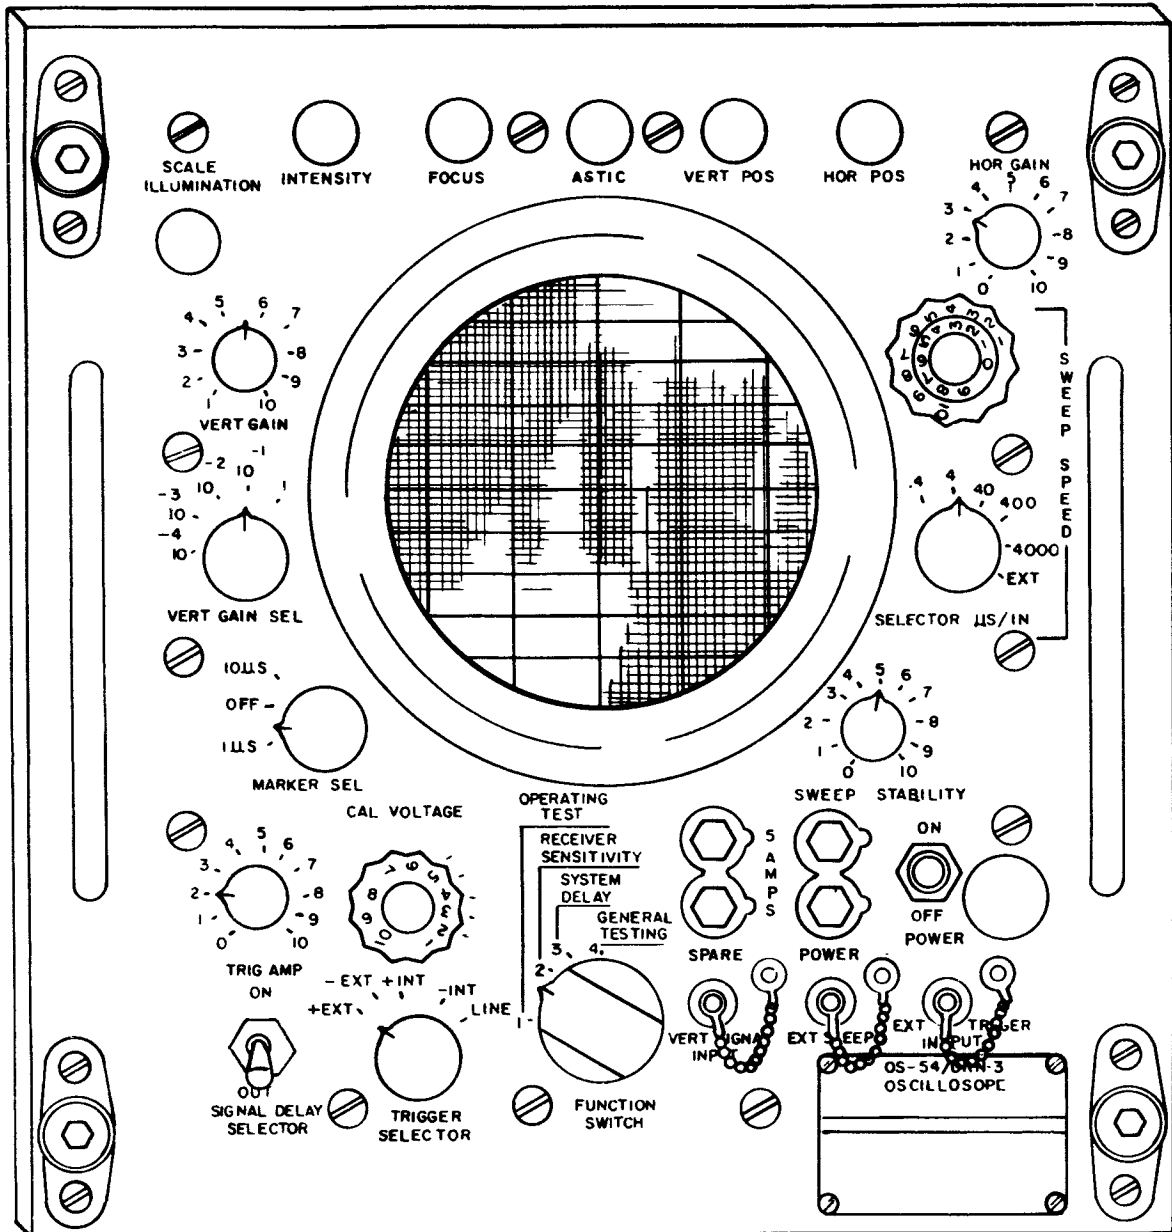
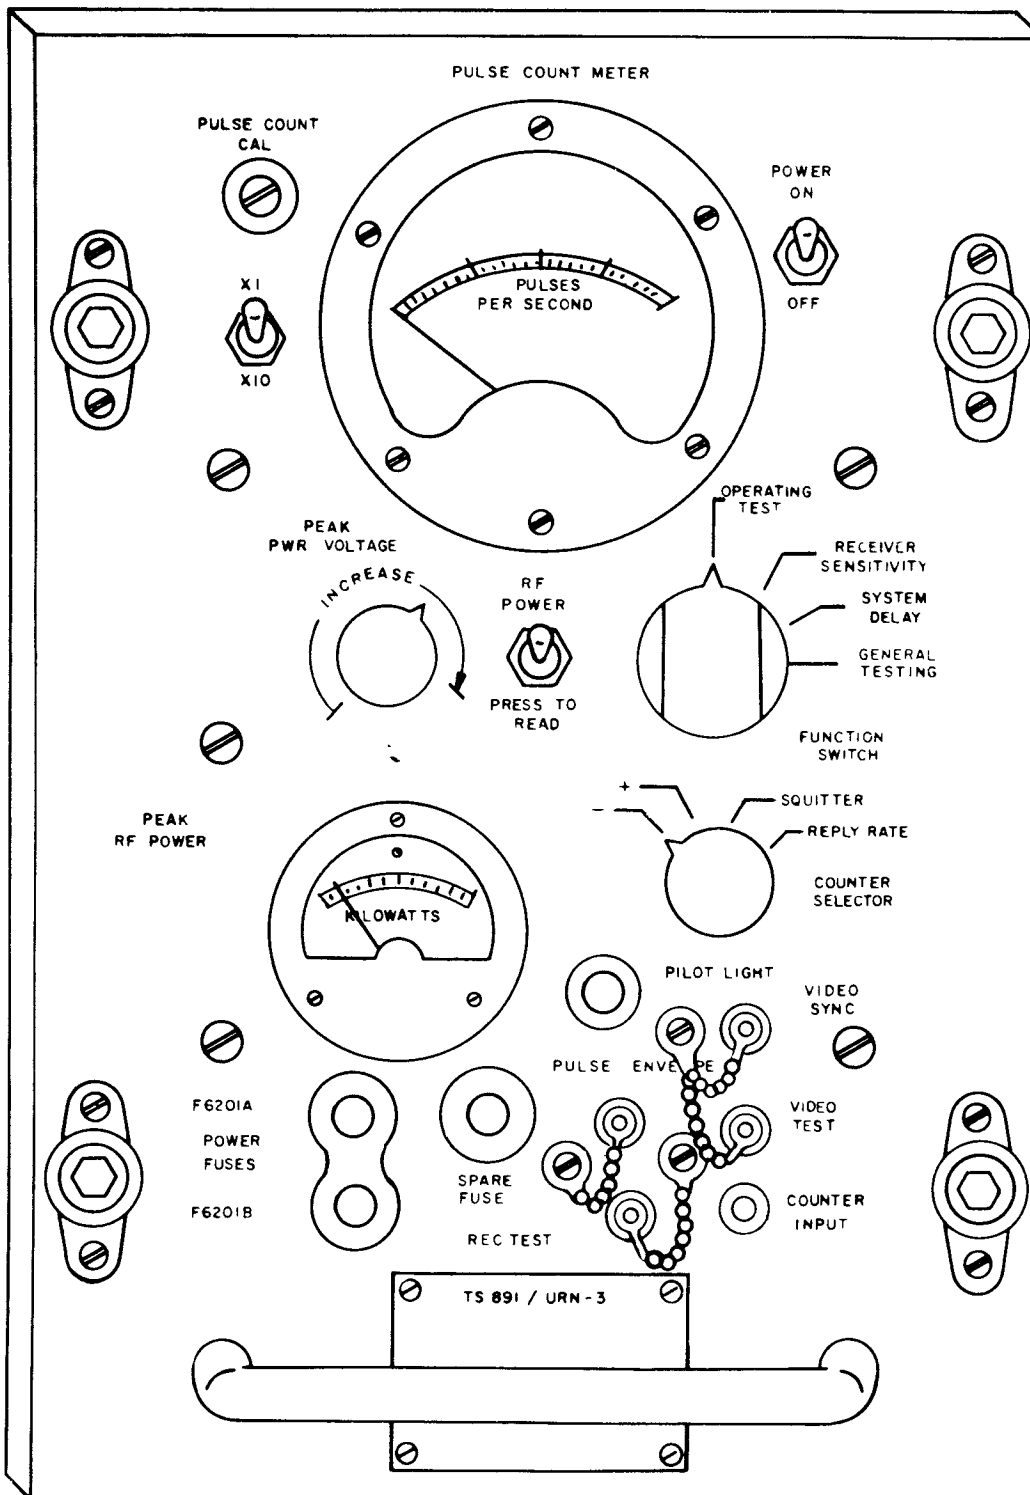

Figure 3-16. Oscilloscope. Front Panel View
Figure 3-17. Power Meter-Pulse Counter TS-891/URN-3, Front Panel View
(2) PEAK POWER MEASUREMENTS.— Peak power delivered to the antenna must be 7.5 kw, or greater; to obtain this measurement, proceed as follows:
Step 1. Turn FUNCTION switches on Oscilloscope OS-54/URN-3 (figure 3-16) and power meter-pulse counter (figure 3-17) to OPERATING TEST.
(8) CHECKING RECEIVER BLANKING TIME.
Step 2. Connect TEST OUTPUT jack on front panel of receiver to oscilloscope EXT TRIG INPUT (figure 3-16). Use positive sync on oscilloscope.